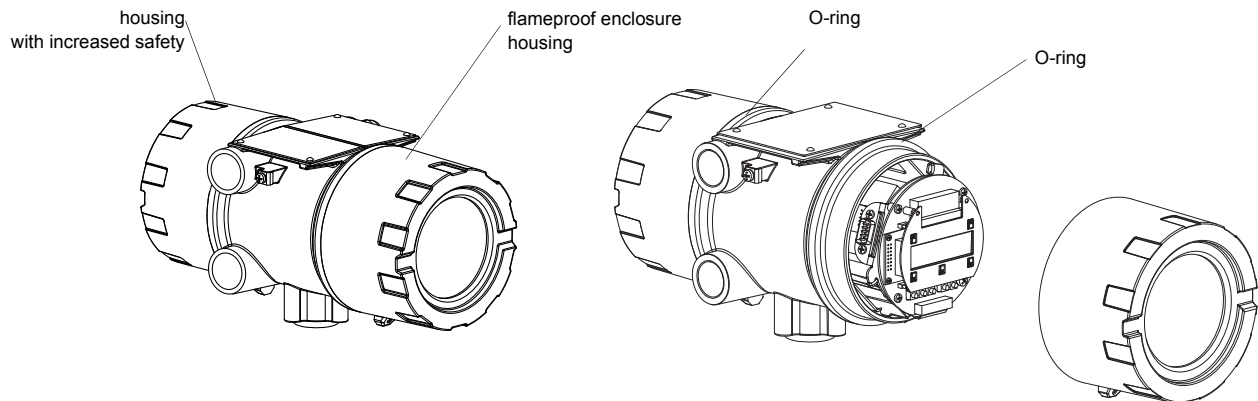
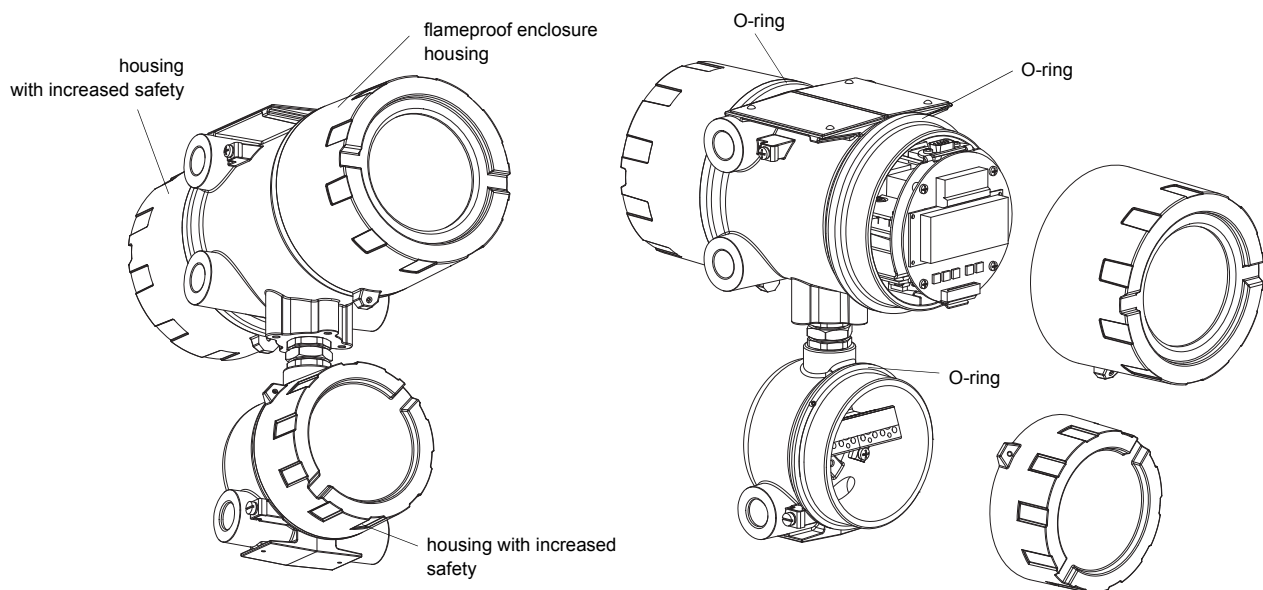

Fig. 19.1: FLUXUS F808
Fig. 19.2: FLUXUS F809
- Check the O-ring when opening the housing (FLUXUS F808, see Fig. 19.1, FLUXUS F809, see Fig. 19.2).